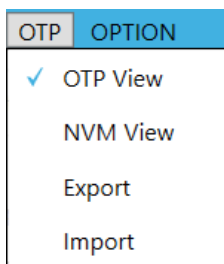

Figure 9: Select OTP View
3. Select “OTP View” from the OTP drop-down menu to enter OTP and MTP view (see Figure 9 on page 11).